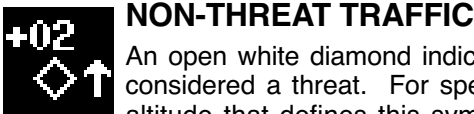

**Figure 3-1**
**FLIGHT LEVEL** - Pressing the **MENU** Key will display the **FLIGHT LEVEL** Softkey. Pressing this key toggles the altitude tag between relative or absolute altitude as shown in Figures 3-1 and 3-2.